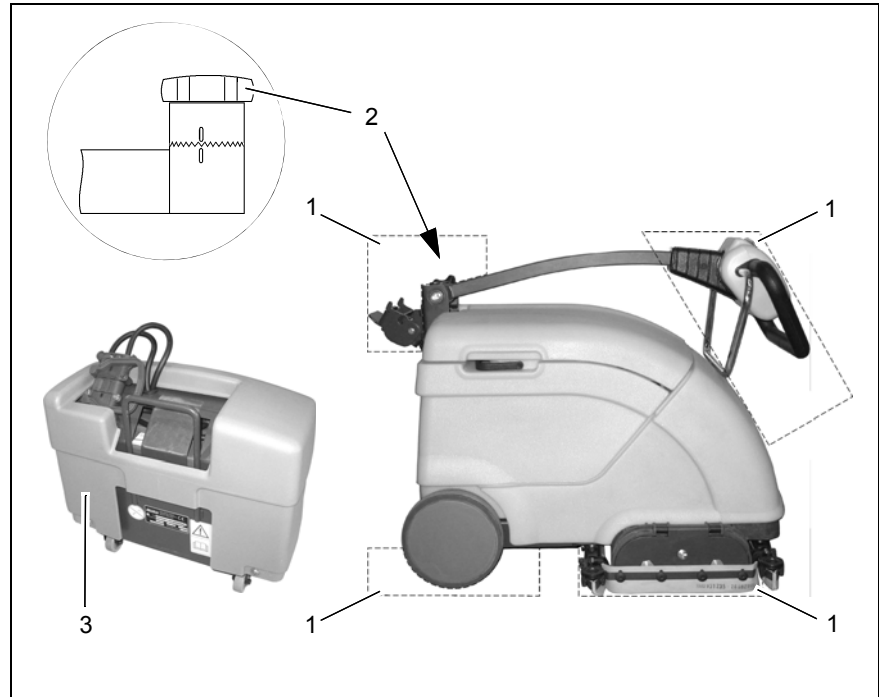

Fig.2
2. Remove the insulation blocks (Fig. 2/1).
3. Loosen the adjusting knob (Fig. 2/2) and move the steering shaft to its operating position (guide marks facing each other). Screw the adjusting knob tight again.
4. Remove the battery trolley (Fig. 2/3) from the packaging.